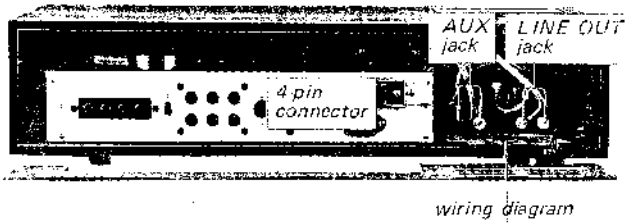

Fig. 2-3. Parts location
3. Disconnect the two pairs of phono plugs from the cassette deck as shown in Fig. 2-3.